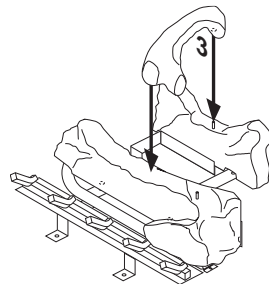

Figure 20 - Installing Log #3 (CD36M-A Series Shown)
- Place log #3 (c-shaped crossover log) onto rear and front logs as shown in Figure 20. Make sure it is seated properly on the smooth surface on front log and on the pin on back log.